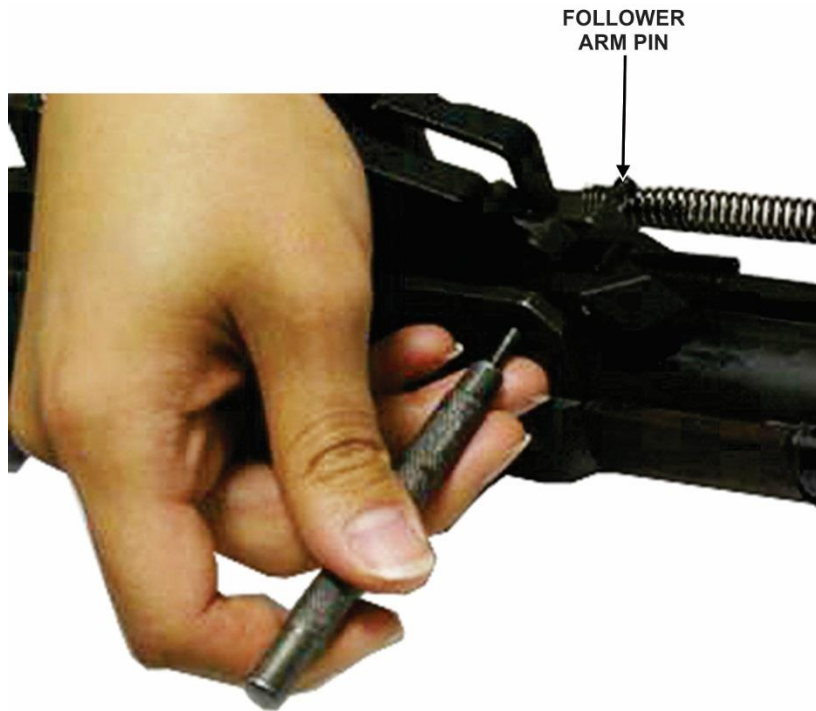

Figure 16. Removal of follower arm pin
- 2) Using a 1/8 inch punch, remove the follower arm pin by pushing on it from the small side of the pin (the left side of the rifle when it is upright and pointed downrange). The large end of the pin can then be grasped and fully removed (fig 16).